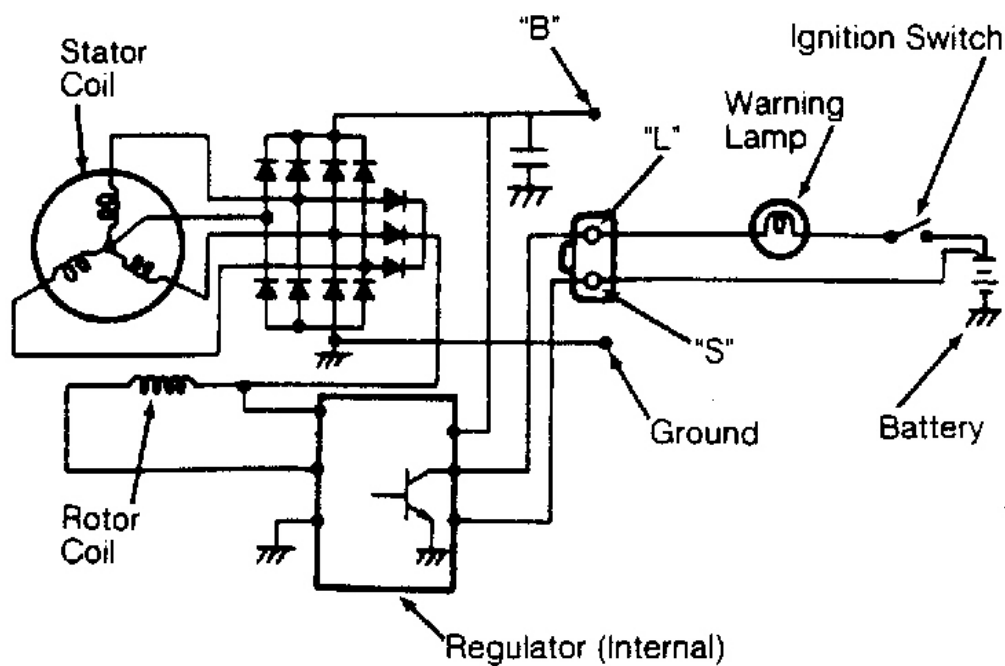

Fig. 1: Charging System Wiring Schematic
Alternators are conventional 3-phase, self-rectifying type units containing 6 diodes (3 positive and 3 negative) which are used to rectify current. See **Fig. 1**. An internally-mounted, Integrated Circuit (IC) regulator is used on all models.